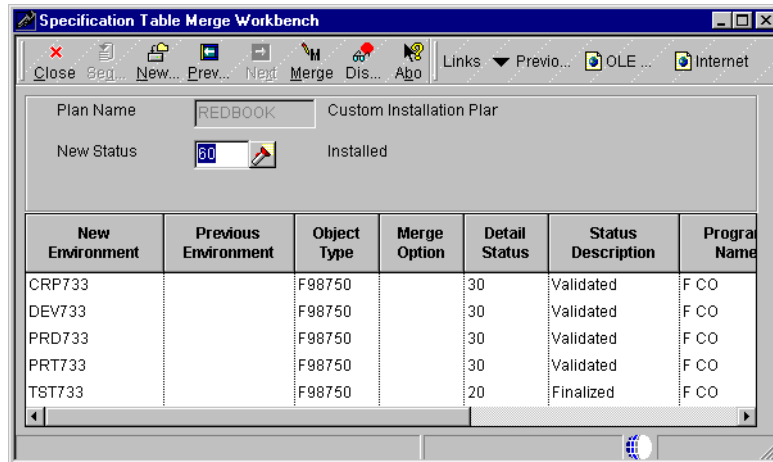

Figure 260. OneWorld Specification Table Merge
1. On the Specification Table Merge Workbench form (similar to the example in Figure 260 on page 490), the Plan Name field contains the name of your language custom installation plan.